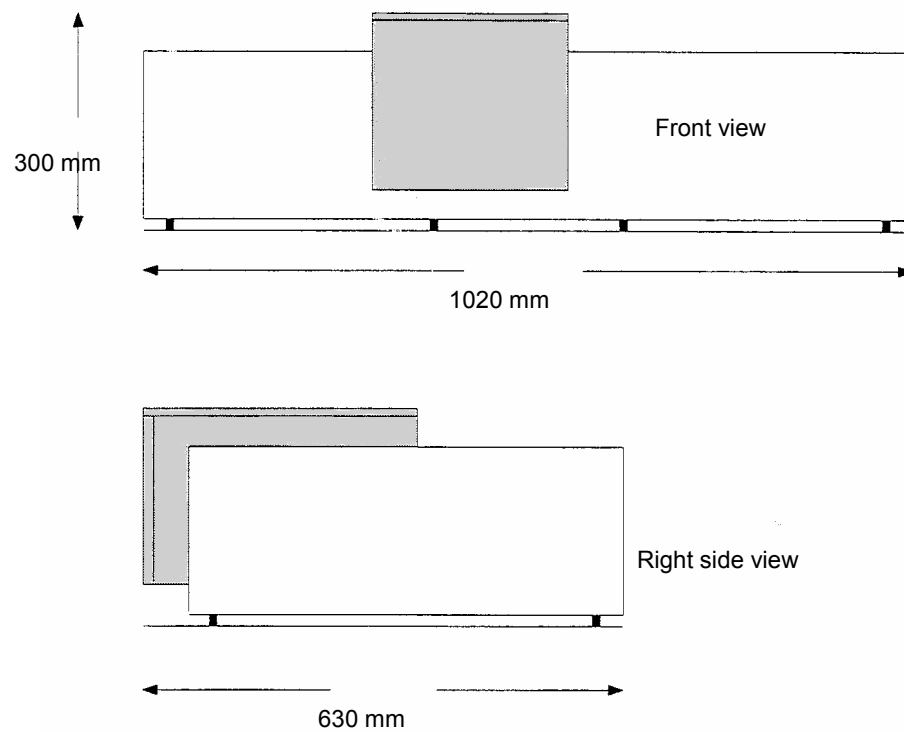

Figure 6 Space Requirements
- Enough space around and underneath the instrument for efficient air circulation, as shown in Figure 6.